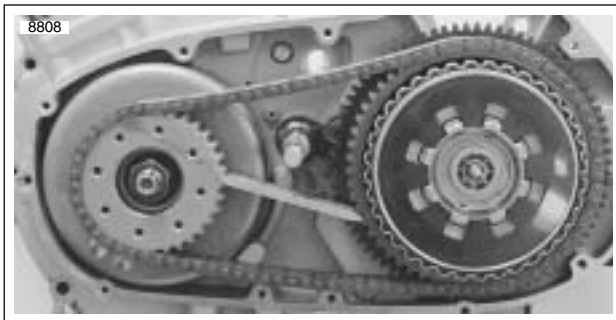

Figure 6-21. Sprocket Locking Link Tool (Part No. HD-38362) for XB9S models and (Part No. HD-46283) for XB12S models.
- a. See Figure 6-21. Install SPROCKET LOCKING LINK (Part No. HD-38362).